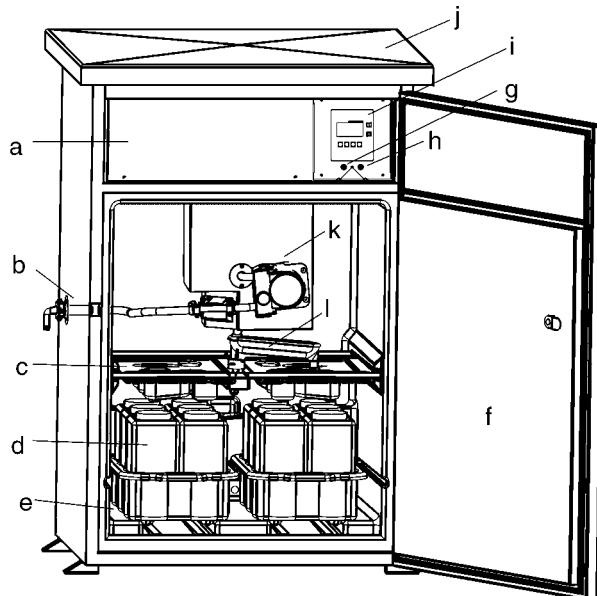

Fig. 2: ASP station 2000 peristaltic installation overview
3. Screw the sampling hose to the hose connection of the device → Fig. 2, item d.